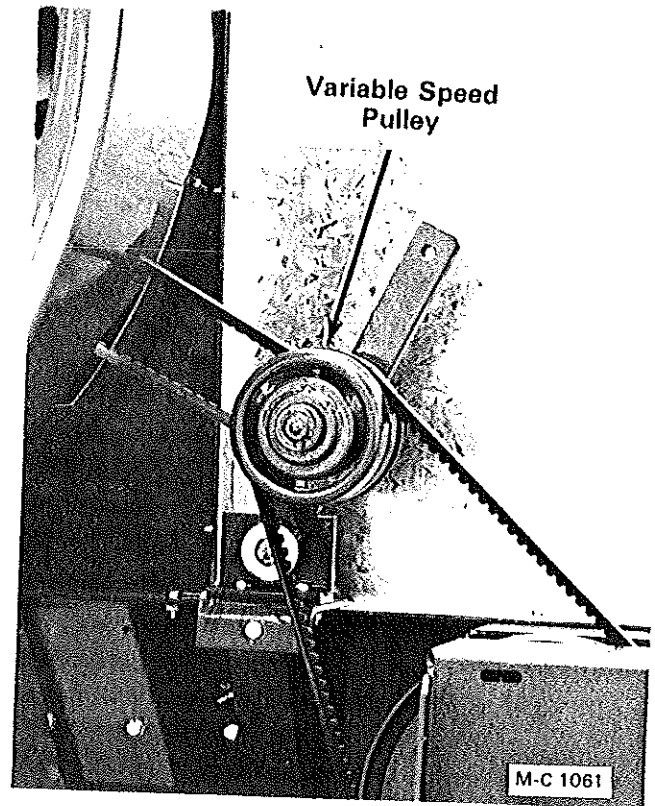
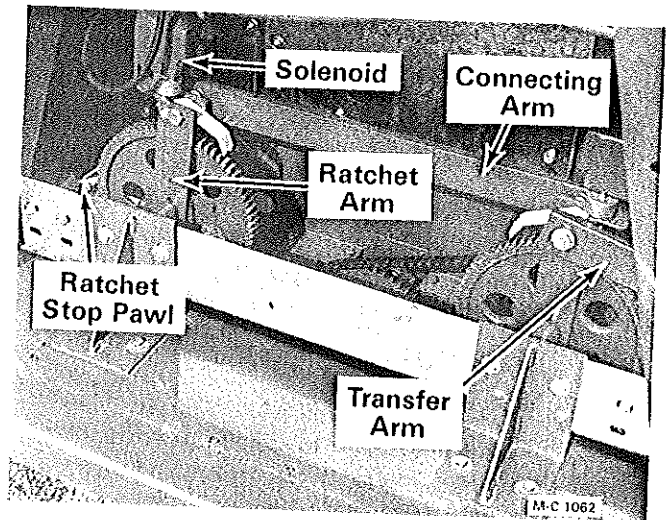

Figure 19
Figure 20
CAUTION: The guards were removed in Figure 19 and 20 to provide clear illustrations. Do not operate the dryer without guards in place and secure.
1. The variable speed pulley, Figure 19 controls the speed of the unloading auger and the rate of speed that the grain metering roll ratchet arms move back and forth, see Figure 20.
CAUTION: The guards were removed in Figure 20 and 21 to provide clear illustrations. Do not operate the dryer without guards in place and secure.
4. The ratchet arms are connected together with the connecting arm and the left ratchet arm is connected to the eccentric drive sprocket with the transfer arm, see Figure 20.
- The ratchet pawls must engage the same number of teeth on each ratchet wheel so that the metering rolls unload at the same rate. If they do not, move the ratchet stop pawl(s), shown in Figure 20, closer to the ratchet wheel(s) to prevent ratchet wheel roll back.